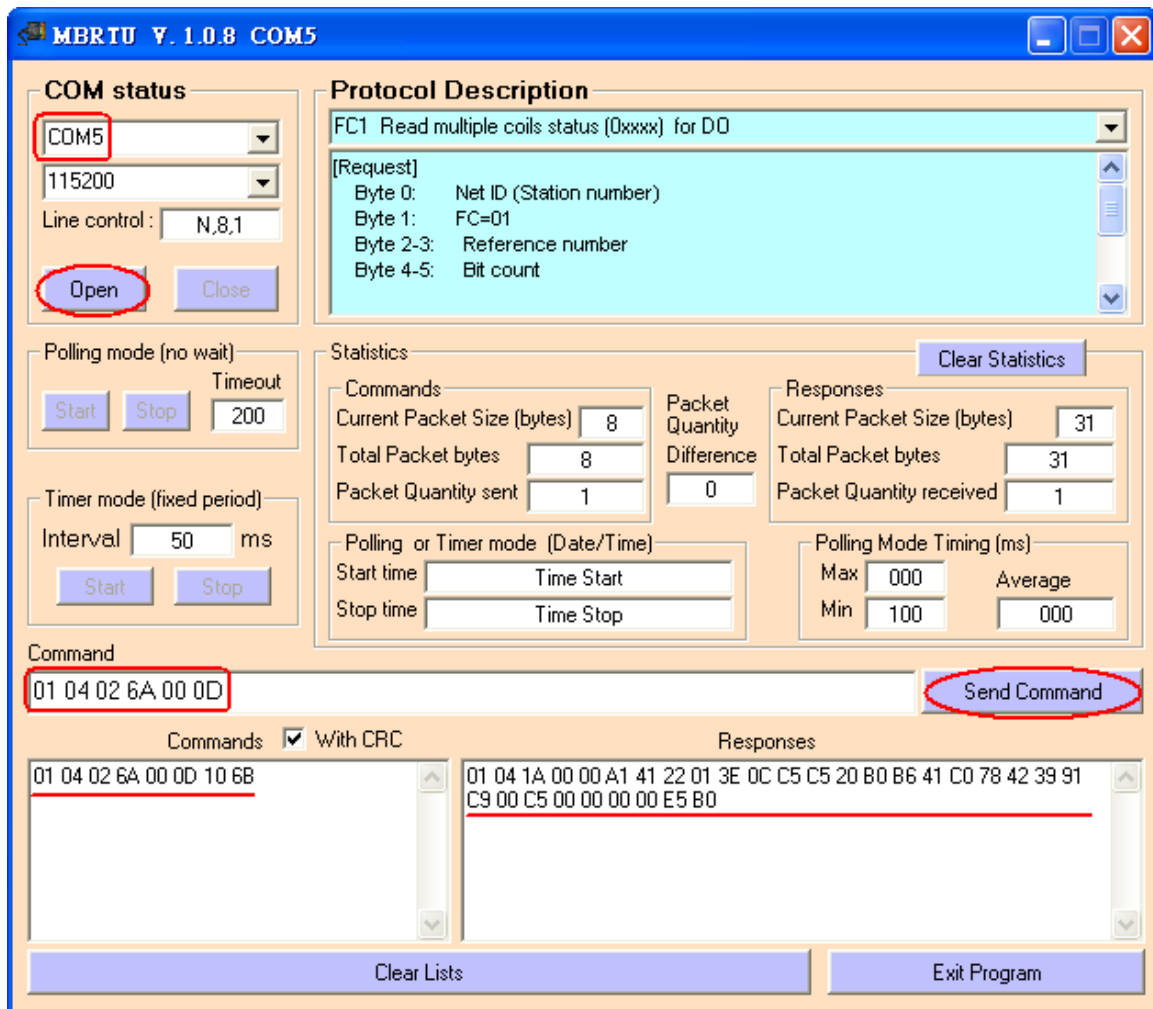

Figure 6-2 Receive HART Command 3 data
Data Bits / Stop Bits / Parity) and then click “Open” button to connect to HRT-710 like Figure 6-2.
(4) Input “01 04 02 6A 00 0D” in “Command” field and click ”Send Command” button to send the modbus command. The HART command 3 data will be received in “Responses” field => “01 04 1A 00 00 A1 41 22 01 3E 0C C5 C5 20 B0 B6 41 C0 78 42 39 91 C9 00 C5 00 00 00 00 E5 B0” like Figure 6-2.